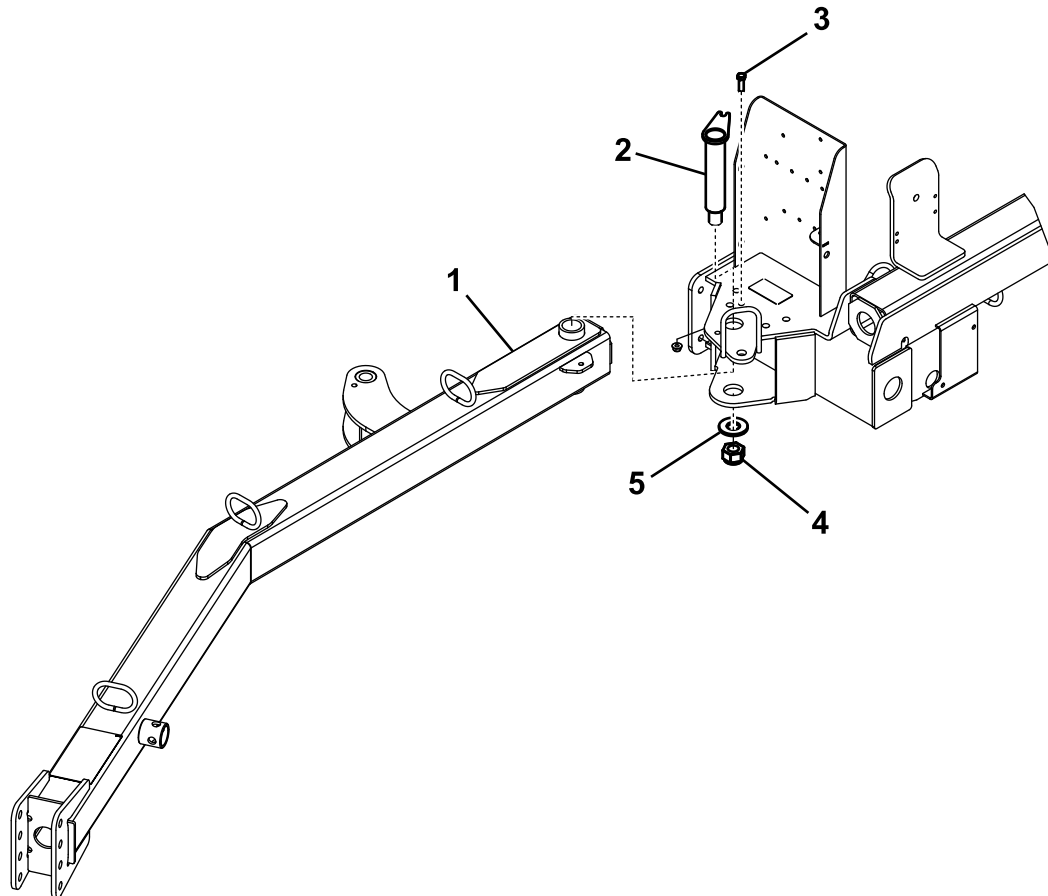

Figure 3
1. Insert the rear end of the hitch tongue between the mounting plates on the sweeper while aligning the mounting holes (Figure 3).
2. Insert the hitch pin through the mounting plates and the hitch tongue (Figure 3).
3. Secure the top of the hitch pin to the mounting plate with a bolt (3/8 x 1-1/4 inch) and a locknut (3/8 inch) (Figure 3).
4. Secure the bottom of the hitch pin with a large washer, large nut and square-head set screw (Figure 3).